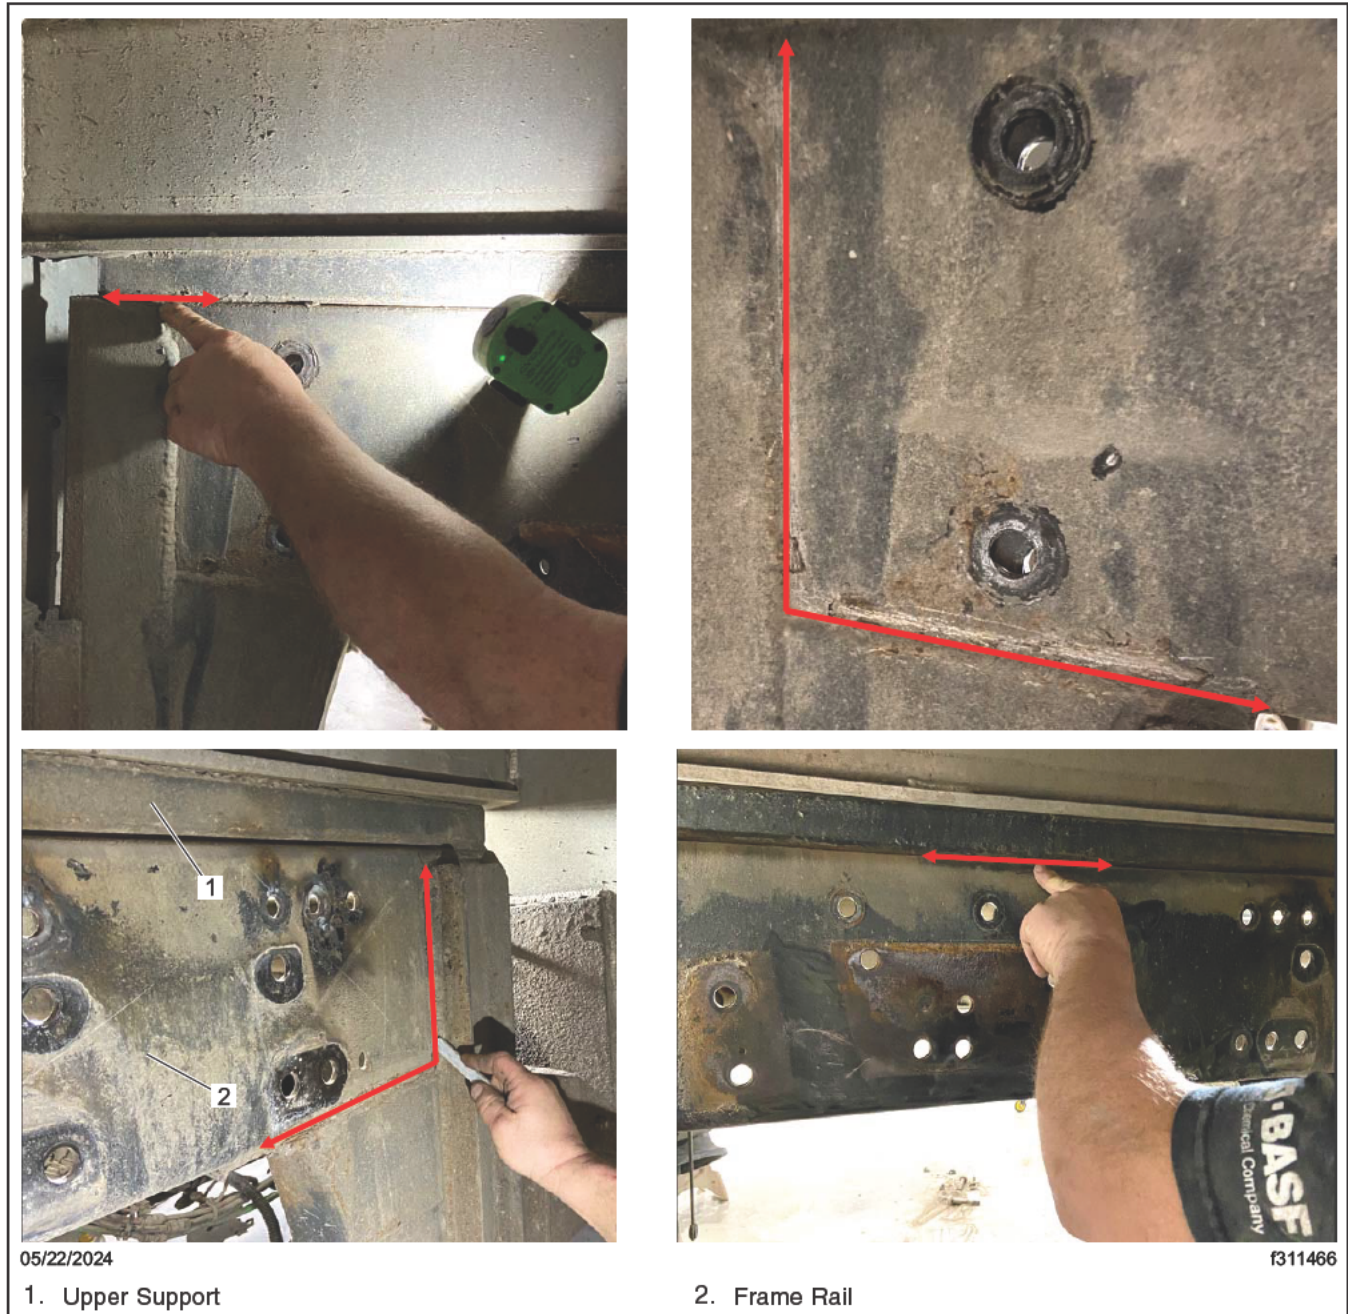

Fig. 25, Marking the Frame Rail with a Paint-Pen
4. Use a paint pen or similar tool to mark the frame rail on both ends to indicate where cuts should be made. See Fig. 25.